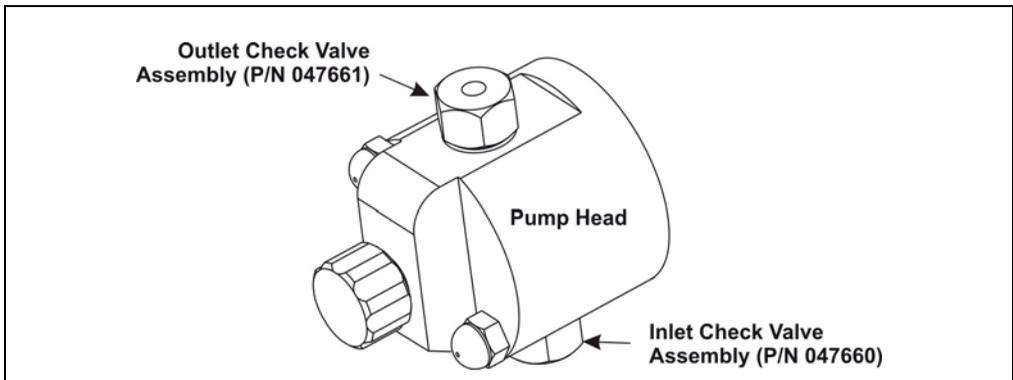

Figure 5-4. Pump Head Assembly
4. Disconnect the tube fittings from both the inlet and outlet pump check valve housings (see Figure 5-4).
3. Disconnect the tube fittings from the inlet and outlet check valves (see Figure 5-4).
- Reconnect the liquid lines to the inlet and outlet check valves on the pump head assembly (see Figure 5-4).